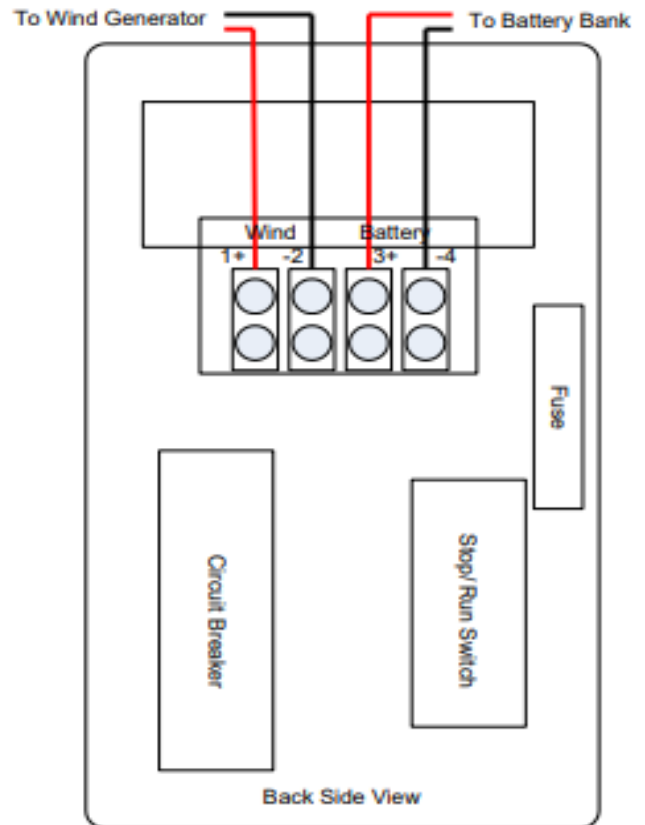

Figure 2
Wind Generator Connection: Mechanically tie off the wind turbine blade so that it cannot operate while making your connections. Connect the wires of the 12-48V wind turbine feed wires to the terminals marked wind. Negative to -2 and Positive to 1+ of the Control Panel using the appropriate wire size (8 AWG or smaller) which the blocks will accept, see Figure 2. If a larger gauge wire is required, use a few inches of 8 AWG wire to transition to the terminal blocks. The green grounding wire of the wind generator is connected to the grounding system.
- 1) **Battery Connections:** Be sure battery feed wires are not connected to the battery at this time. Connect the battery feed wires to terminals marked Battery with Negative to -4 and Positive to 3+ of the control panel using the appropriate wire size (see Figure 2).